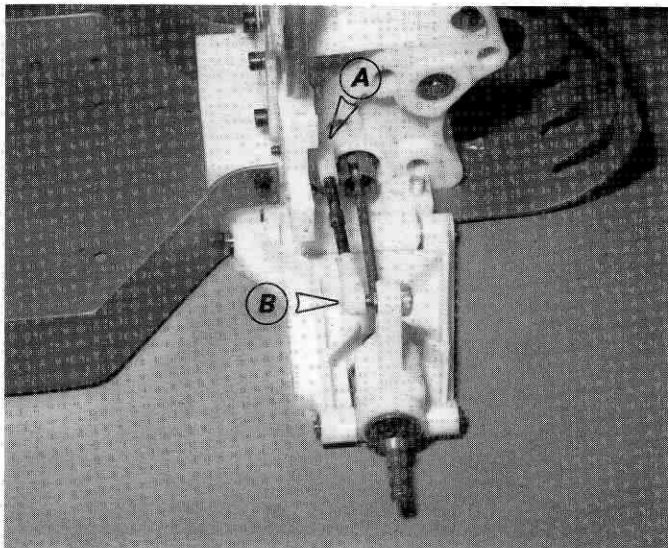

Fig. 88
□ **Fig. 88** Put the strut (A) onto the ball on the bulkhead. Put the spring inside the stub axle, and make sure the spring fits freely in the hole. If the spring binds you may be able to clear the hole with an Allen wrench; or you can reread step 111. Put the dogbone or half-shaft into the gear slot. Now, align the stub axle with the dogbone and slide it in. Put the strut (B) on the ball in the hub carrier. It should look like Fig. 116 now. Do the R.H. side.